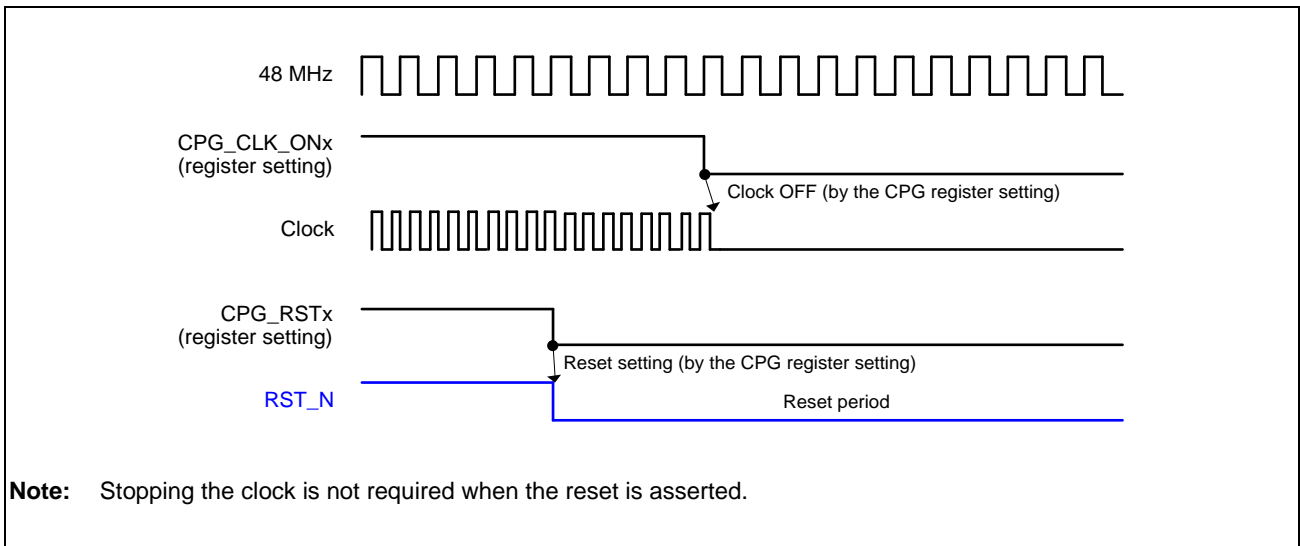
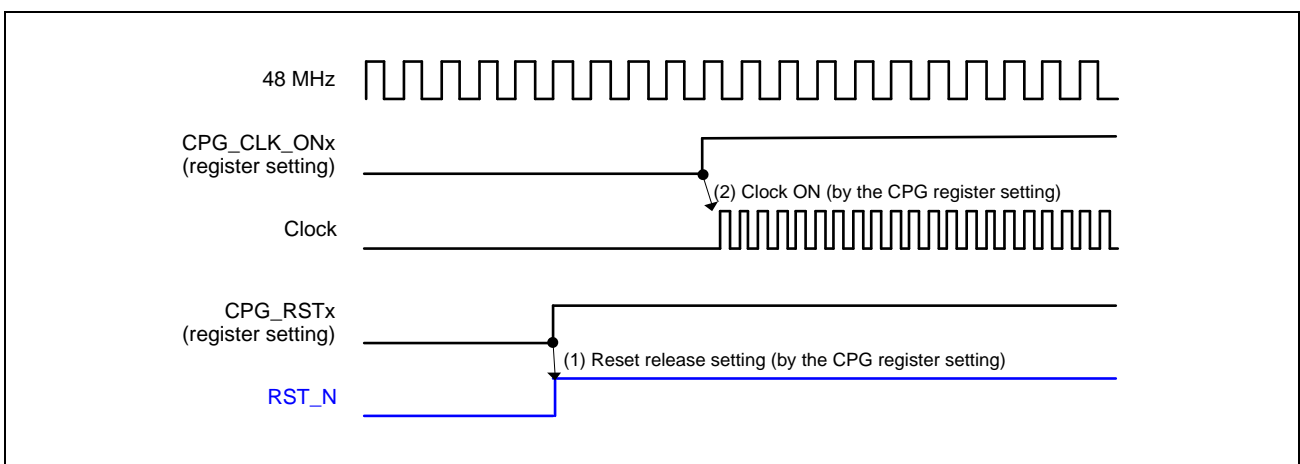

Figure 34.6-28 Timing of Asserting the TYPE-A Reset by the CPG Register
Figure 34.6-29 Timing of De-asserting the TYPE-A Reset by the CPG Register
**Figure 34.6-28** and **Figure 34.6-29** show the timing charts and **Table 34.6-28** lists the correspondence between the resets and clocks for the respective units.